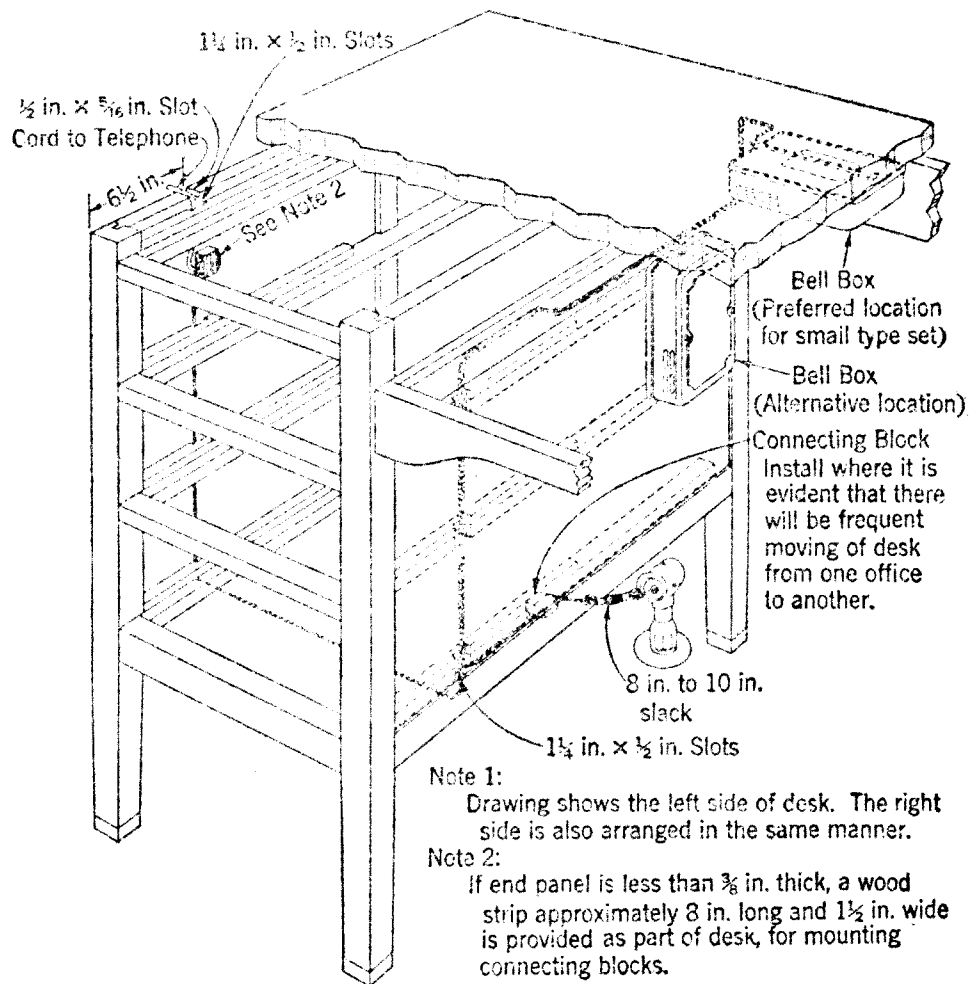
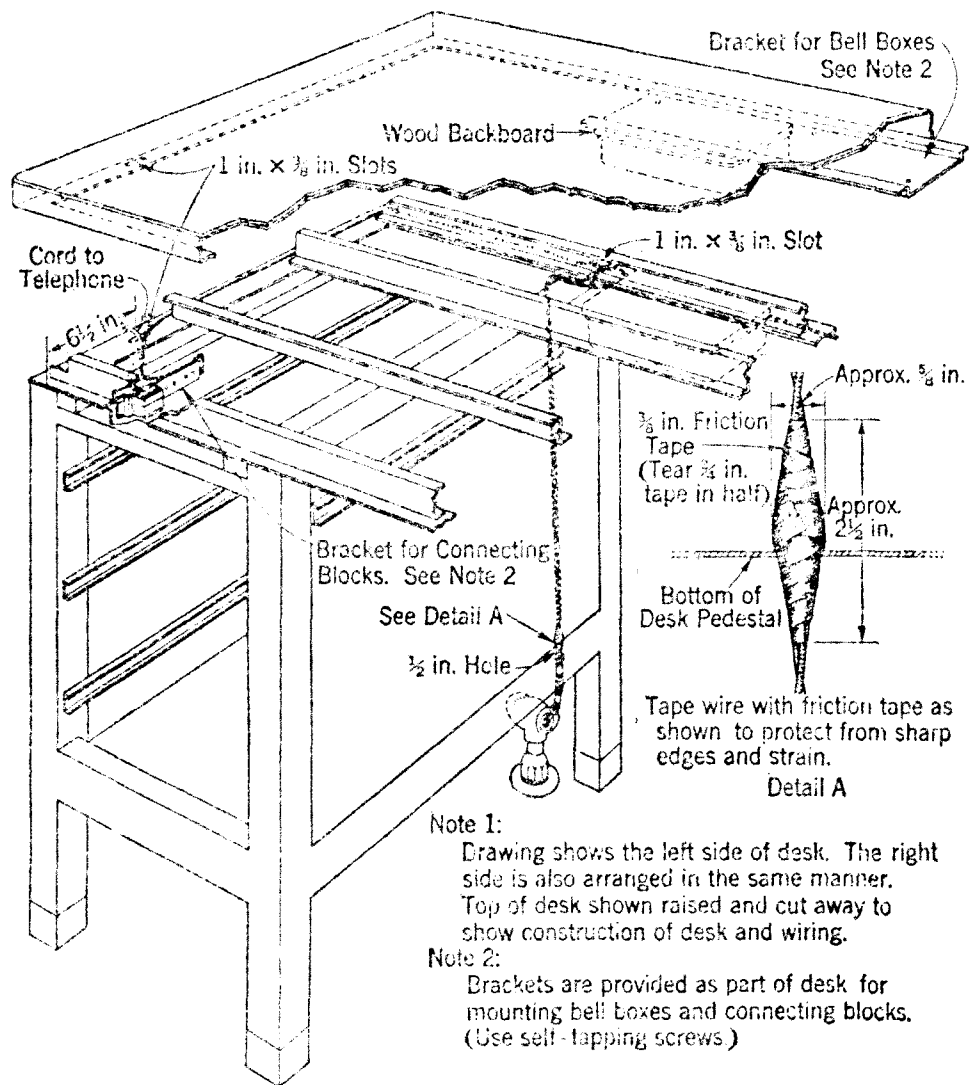

Fig. 7.
Fig. 8.
3.12 **General:** Desk manufacturers are providing facilities in their desks which will permit placing the wire so that it will be, as far as practicable, concealed. Therefore, before attempting to place wire on a desk, make a survey of the desk to determine if wiring facilities are provided. Inasmuch as there are varied types of construction in desks, it is not practicable to show them all in detail. However, a few typical examples are shown in Fig. 7 and Fig. 8.